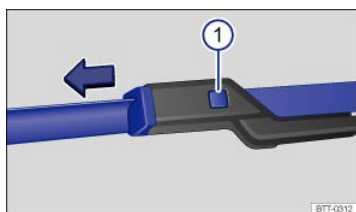

Fig. 169 Changing the windshield wiper blades.
- Press and hold the release button ⇒ *Fig. 169* .